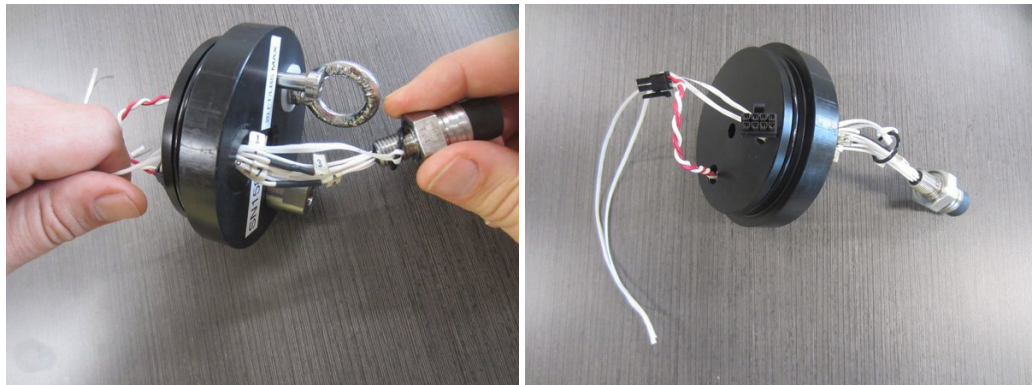

Figure 36: Removal of an O-ring from an MCBH connector (a MicroCTD is pictured).
- **Bulkhead Connector(s):** To remove the connector O-rings, thread string around the O-ring and pass both ends of the string through the threaded hole (Figure 36). Gently pull on the string to pass the O-ring through the hole and around the wiring harness. Reverse these steps to replace this O-ring.